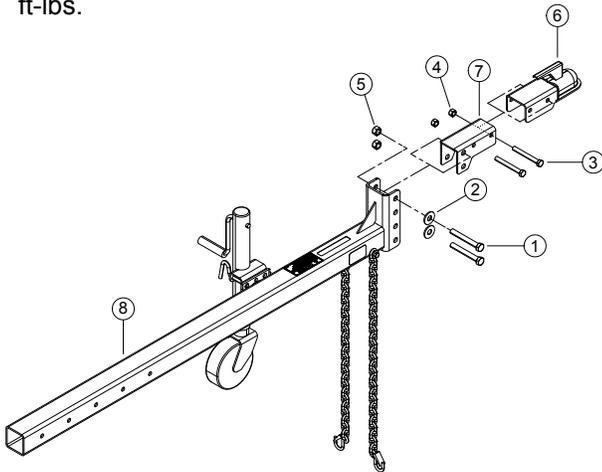

Figure 2.1, Non-CE Compliant Hitch Assembly
#### NON CE COMPLIANT (FIGURE 2.1)
1. Place hitch pole assembly (8) into the frame, align mounting holes to desired length and secure using two 1/2" x 4-1/2" bolts, washers and nuts (hardware not shown in Figure 2.1). Torque to 75 ft-lbs.
2. Attach coupler mount (7) to hitch pole using two 5/8" x 4 1/2" bolts (1), washers (2) and centerlock nuts(5). Torque to 150 ft-lbs.
3. Attach 2" coupler (6) to coupler mount using two 1/2 x 4" bolts (3) and centerlock nuts (4). Torque to 75 ft-lbs.